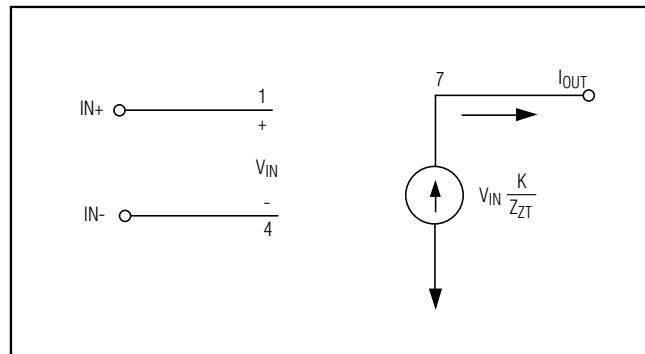

Figure 1. Operational Mode
The output is essentially a voltage-controlled current source as shown in Figure 1. The MAX9547 output is a current proportional to the differential input voltage, and inversely proportional to the impedance of the user-selected transconductance network,  $Z_{ZT}$ . The current output provides inherent short-circuit protection for the output terminal. A differential input voltage applied to the input terminals causes current to flow in the transconductance element ( $Z_{ZT}$ ), which is equal to  $V_{IN} / Z_{ZT}$ . This current in the transconductance element is multiplied by the preset current gain (K) and appears on the output terminal as a current equal to  $(K) \times (V_{IN} / Z_{ZT})$ . This current flows through the load impedance to produce an output voltage according to the following equation: